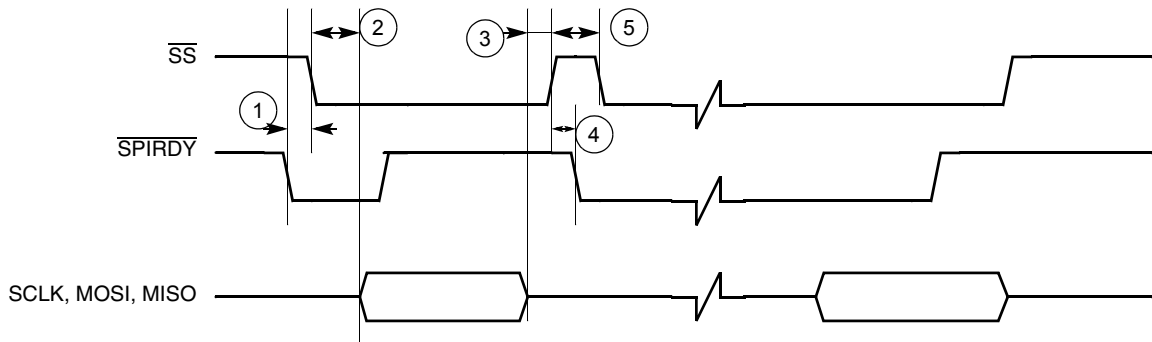

Figure 34. Master SPI Timing Diagram Using $\overline{\text{SPI_RDY}}$ Edge Trigger
To use the internal transmit (TX) and receive (RX) data FIFOs when the SPI module is configured as a master, two control signals are used for data transfer rate control: the $\overline{SS}$ signal (output) and the $\overline{SPI_RDY}$ signal (input). The SPI1 Sample Period Control Register (PERIODREG1) can also be programmed to a fixed data transfer rate. When the SPI module is configured as a slave, the user can configure the SPI1 Control Register (CONTROLREG1) to match the external SPI master's timing. In this configuration, $\overline{SS}$ becomes an input signal, and is used to latch data into or load data out to the internal data shift registers, as well as to increment the data FIFO. Figure 34 through Figure 38 show the timing relationship of the master SPI using different triggering mechanisms.
Table 18. Timing Parameter Table for Figure 34 through Figure 38